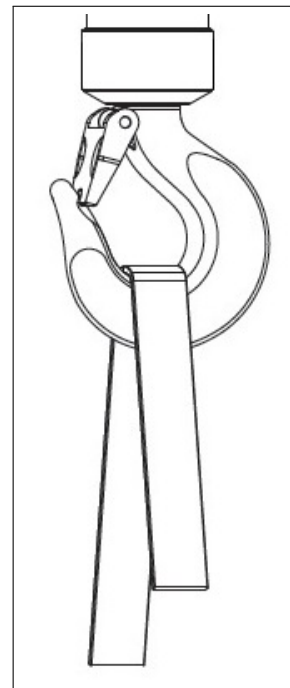

Figure 11: Safely attaching loads
- Connect the sling gear at the lowest point of the hook. Never load the hook nose (→ Figure 11).